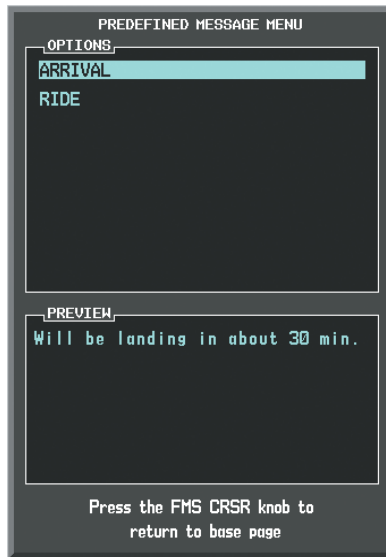

Figure 8-104 Predefined Message List
- 4) Select the **PREDEFD** Softkey. The PREDEFINED MESSAGE MENU Window is displayed as seen in Figure 8-104.